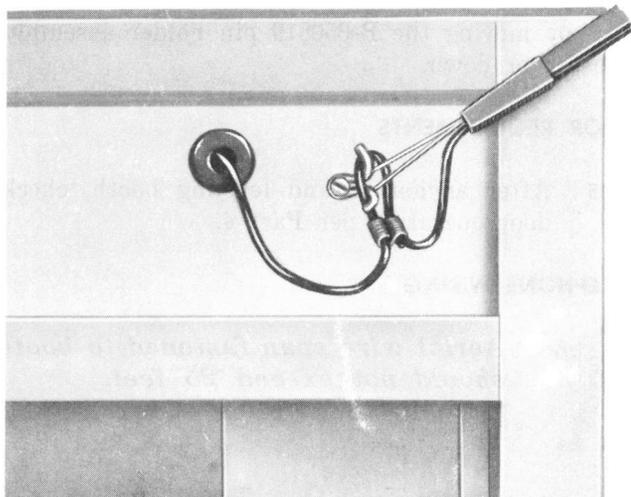
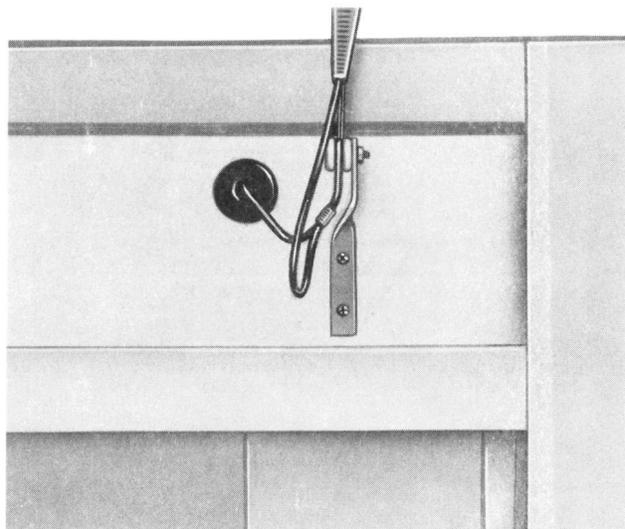

Fig. 18—Drop Wire Hook for First Attachment
Fig. 19—Corner Bracket for First Attachment
3.06 At outdoor locations, attach drop wire hook (Fig. 18) or corner bracket (Fig. 19) (whichever is required) to right rear column adjacent to the entrance hole as follows.
- (1) Secure drop wire hook (Fig. 18) to clinch nut (provided with booth) using one 1/4-20 by 3/4 FHM screw, one 1/4-inch flatwasher, and one 1/4-inch lockwasher.
- (1) Secure the corner bracket (Fig. 19) to the threaded clinch nut using one 1/4-20 by 3/4 Phillips RHM screw.
- (2) Using the bracket as a template, drill a clearance hole for another 1/4-inch screw.
- (3) Further secure the bracket to the booth using one 1/4-20 by 3/4 Phillips RHM screw, one 1/4-inch flatwasher, one 1/4-inch lockwasher, and one 1/4-inch hex nut.
- KS-19425, List 21 Sign Blank Assembly (Fig. 18 and 19)